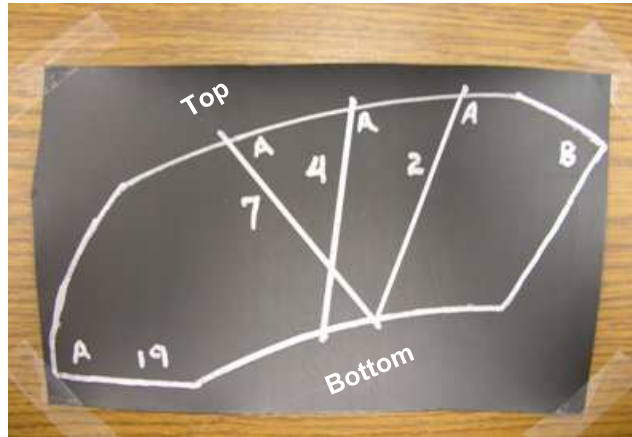

Figure 12
10.6 Trace outline of paper template onto polyethylene sheet with a fine-tip metallic silver Sharpie or similar light, bright colored indelible marker. Also mark polyethylene sheet tracing with the corresponding text: “Top,” “Bottom,” “Tab A,” and “Tab B” to match the paper template. **See Fig. 12.**